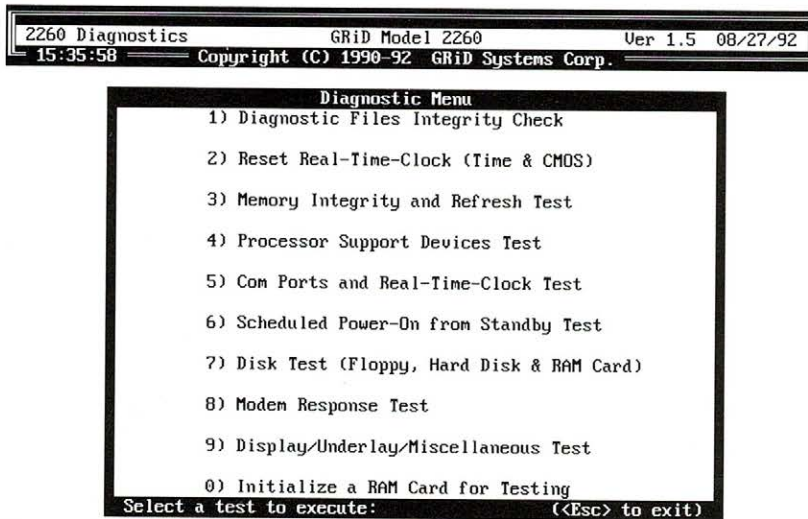

Figure 6-1. Diagnostic Test Menu
5. The menu shown in Figure 6-1 is displayed.